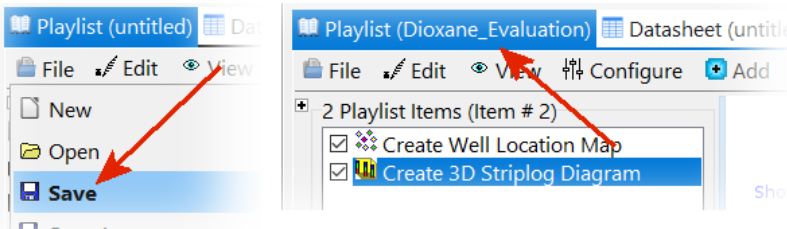

Figure 66
- Select the *Playlist / File / Save* option (Figure 66) and save the current *Playlist* as “Dioxane_Evaluation”. Henceforth, the *Playlist* tab will include the name of this file.